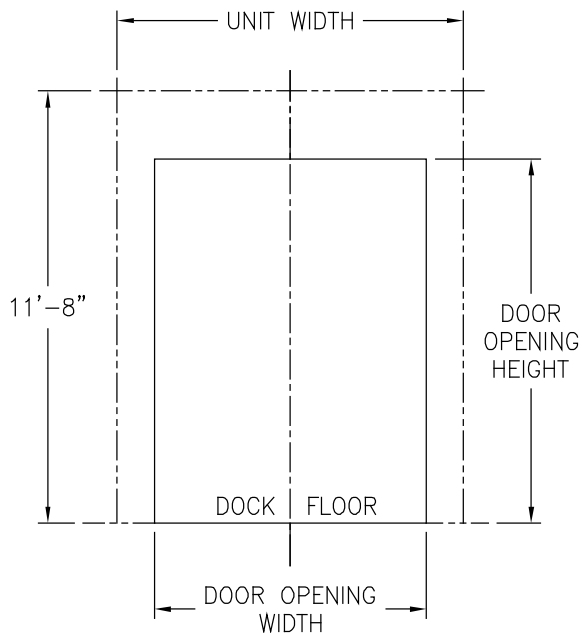

FIG. 2
a. Measure and Mark Center of Dock Door Opening (Fig. 2).
b. Draw a level line even with the dock floor along both sides of dock face (Fig. 2).